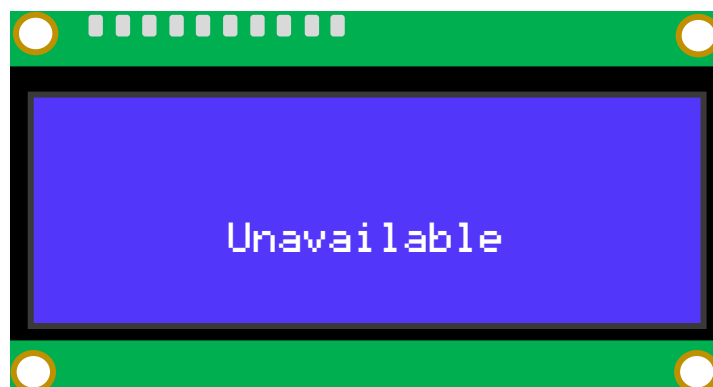

Figure 10 Unavailable Due to OTA Software Updates
8. When the charger gets an OTA software update. It will show the status "Unavailable" on the screen. (*Figure 10*)